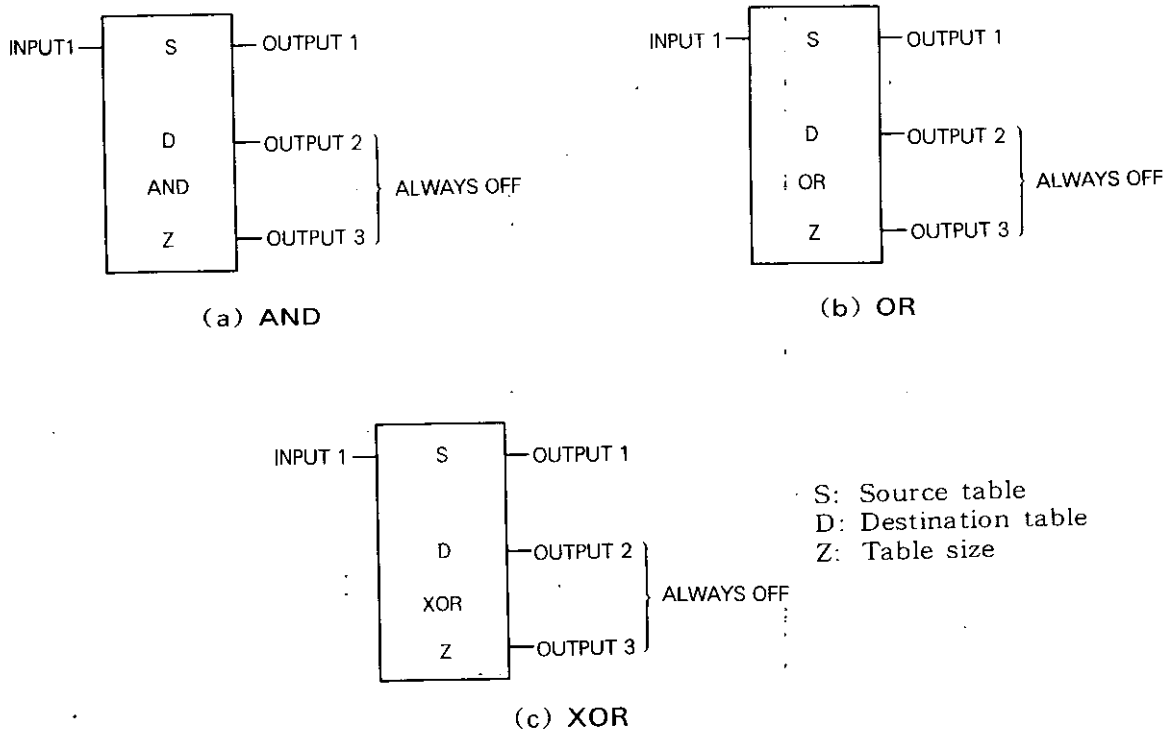

Fig. 5.81 AND, OR, XOR General Forms
- Fig. 5.81 shows each form of AND, OR or XOR.